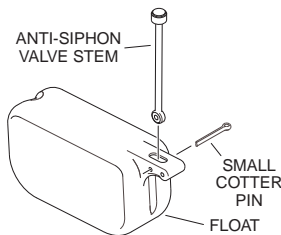

Figure 2
2. Position the anti-siphon valve assembly in the slot of the float and slide the 1-1/8" cotter pin (smallest of the two cotter pins) through the float and the valve stem assembly (see Figure 2) then spread the end of the cotter pin open slightly. When properly installed, the valve stem assembly should pivot freely on the cotter pin inside the float.